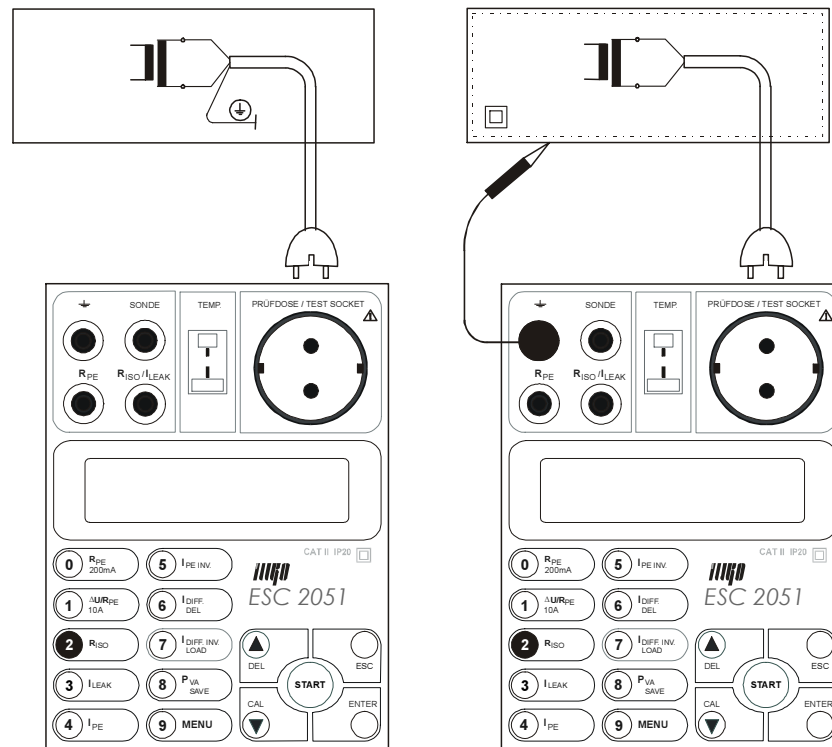

Fig. 6
- Plug in the mains cable of equipment under test to Test socket **1** (Fig. 6) and switch on the tested equipment's mains switch.